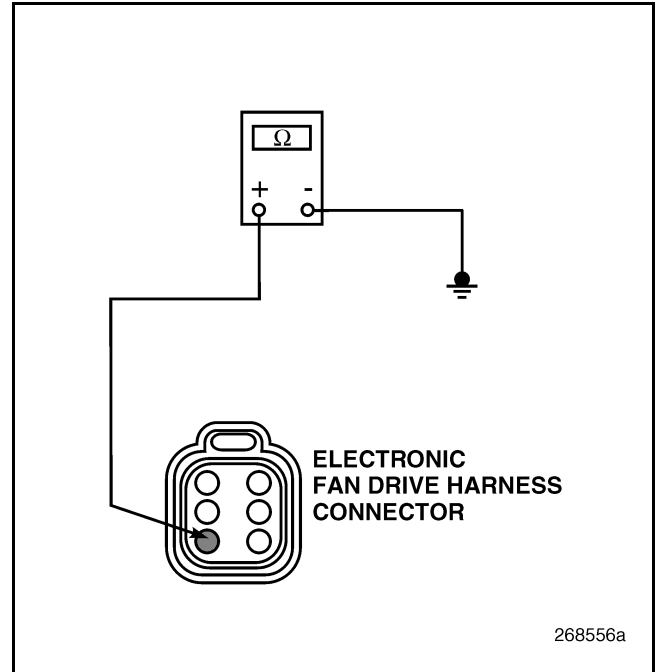

Figure 121
4. Check for continuity between electronic fan drive harness connector pin 3 and a good ground (see Figure 121).